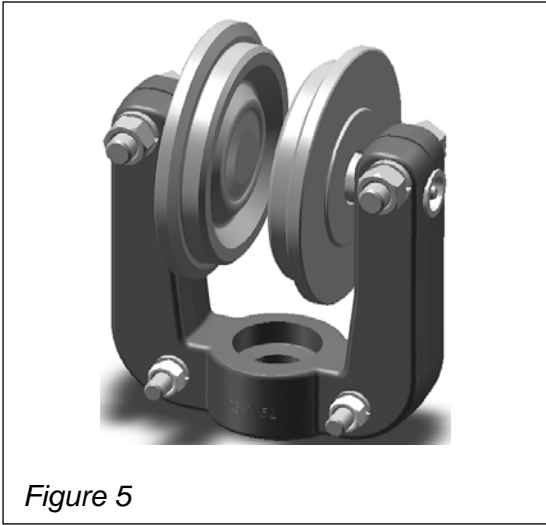
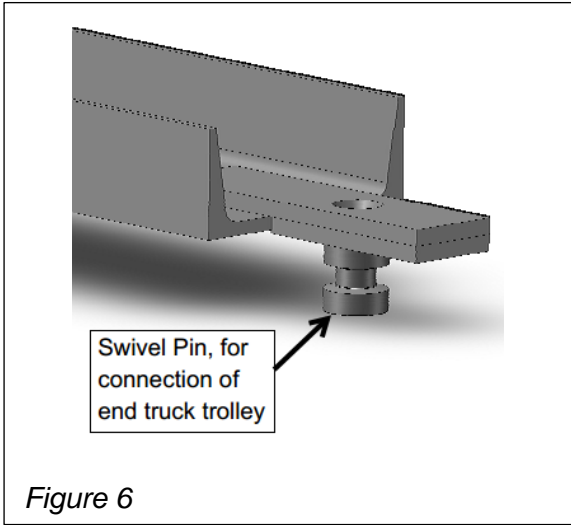

Figure 5
Figure 6
- For 2T-2000-2 or 2T-2000-2SR, verify that the “pocket” of the yoke is clean and smooth, and that the head of the end truck load bar swivel pin (see Figures 6 and 7, Page 6) are free to pivot within the yoke. The pocket of these trolleys does not require lubrication, but a coating of good quality EP grease may be applied if desired.
- A. Disassemble trolleys from end trucks (trolley has “bolt together” yokes). See Fig. 5 and 7. Also see *200 Series Trolley Installation Instructions*. Remove Restraining Lugs. Lift crane into position and reassemble trolleys onto end truck swivel pins (see Fig. 6) at each end. Reassemble restraining lugs.